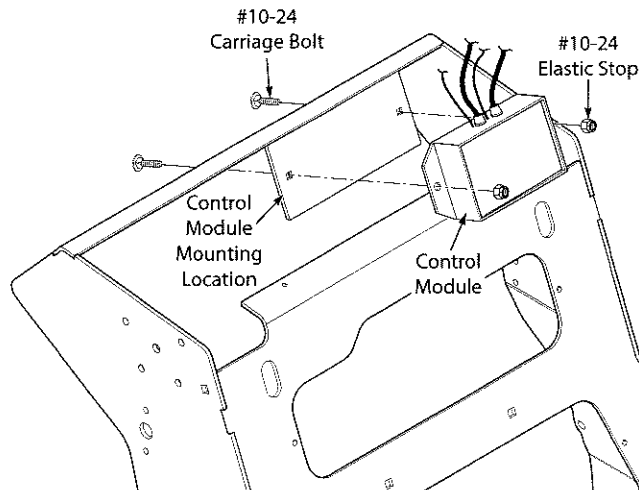

Figure 4. Install Nozzle Control Module
15. Install the new nozzle control module supplied with this kit as shown in Figure 4, and secure using two (2) #10-24 x 1/2" carriage bolts and two (2) #10-24 lock nuts supplied with this kit. See Figure 4.